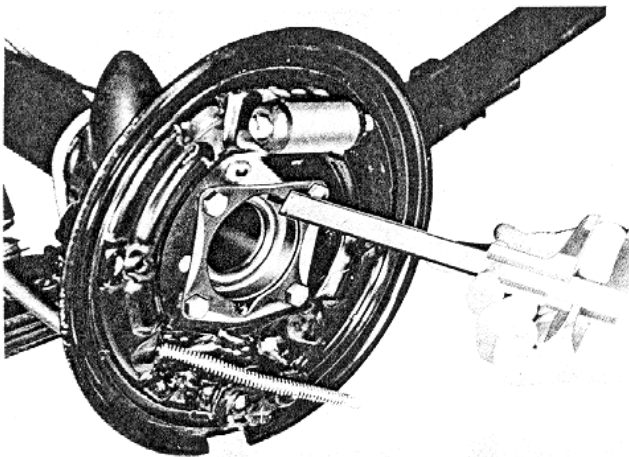

Fig. 9-6 Measuring depth of bearing seat
2. Check the rear axle shaft end play as follows: Install the backing plate with gasket temporarily and measure the depth of the bearing seat in the axle housing using a depth gauge as shown in Fig. 9-6. Then, measure the width of bearing outer race. The difference between the two measurements indicates the required thickness of the shims.